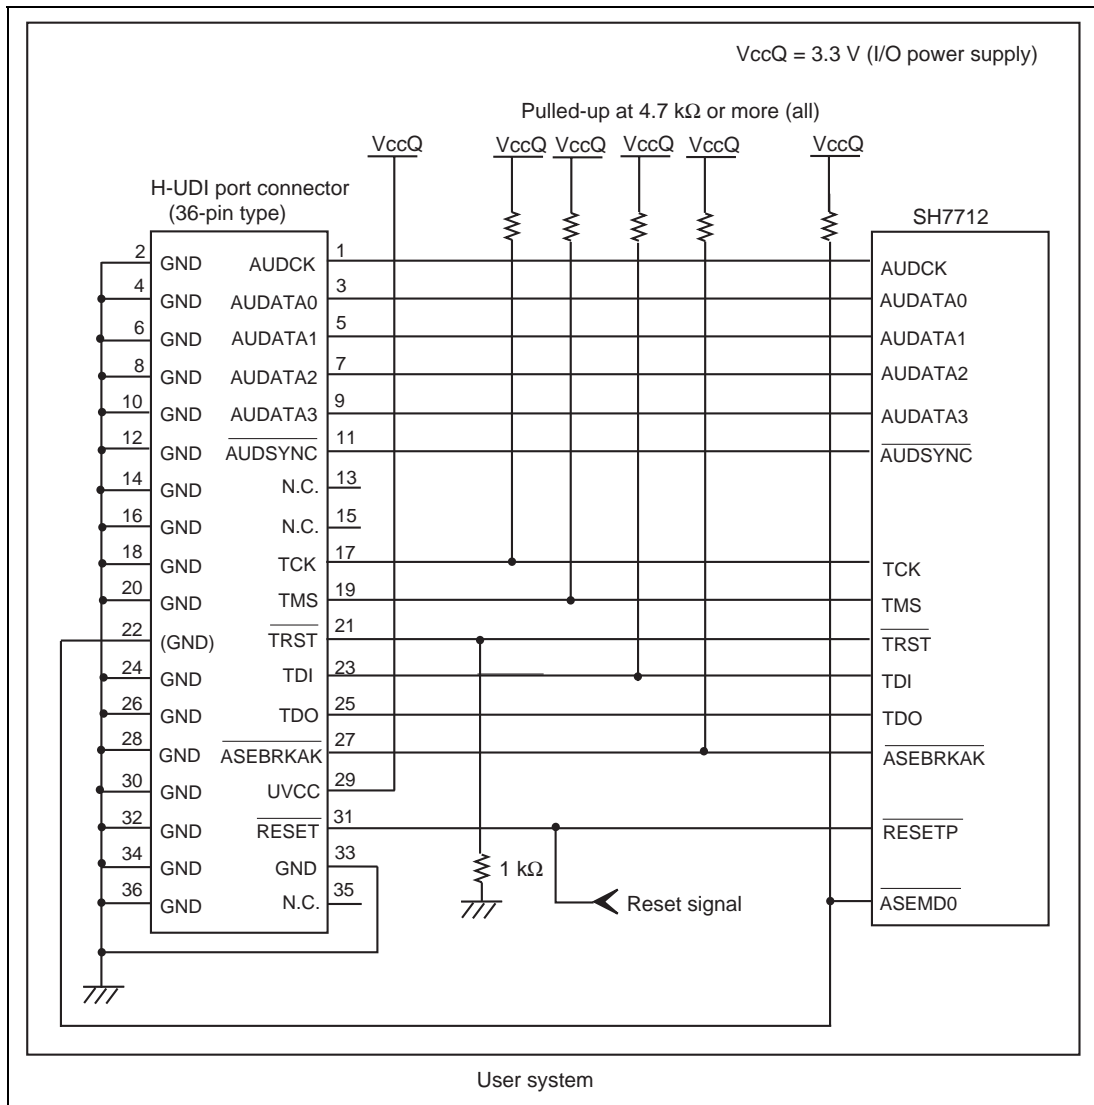

Figure 1.3 Recommended Circuit for Connection between the H-UDI Port Connector and MPU when the Emulator is in Use (36-Pin Type UVCC Connected)
Figure 1.3 shows a recommended circuit for connection between the H-UDI and AUD port connectors (36 pins) and the MPU when the emulator is in use. Figure 1.4 shows a circuit for connection when UVCC is not connected.
- (1) When the emulator is used: /ASEMD0 = 0 (ASE mode)
- (2) When the emulator is not used: /ASEMD0 = 1 (normal mode)Figures 1.3 and 1.4 show examples of circuits that allow the /ASEMD0 pin to be GND (0) whenever the emulator is connected by using the user system interface cable. When the /ASEMD0 pin is changed by switches, etc., ground pin 22. Do not connect this pin to the /ASEMD0 pin.
5. When the power supply of the user system is turned off, supplying VccQ of the user system to the UVCC pin reduces the leakage current from the emulator to the user system. A level shifter that is activated by the internal power supply or user power supply (changed by the switch) is installed in the interface circuit of the emulator. If the user power is supplied to the UVCC pin, the level shifter is not activated as long as no user power is supplied. When the power supply of the user system is turned off, no current flows from the user interface. The I/O voltage level of the user system interface can be the same as that of the VccQ. To operate the emulator with low voltage (lower than 3.3 V), the VccQ must be supplied to the UVCC pin. Make the emulator's switch settings so that the VccQ will be supplied (SW2 = 1 and SW3 = 1) (as shown in figure 1.3).
When the circuit is connected as shown in figure 1.3, the switches of the emulator are set as SW2 = 1 and SW3 = 1. For details, refer to section 3.8, Setting the DIP Switches, in the Debugger Part of the SuperH™ Family E10A-USB Emulator User's Manual.